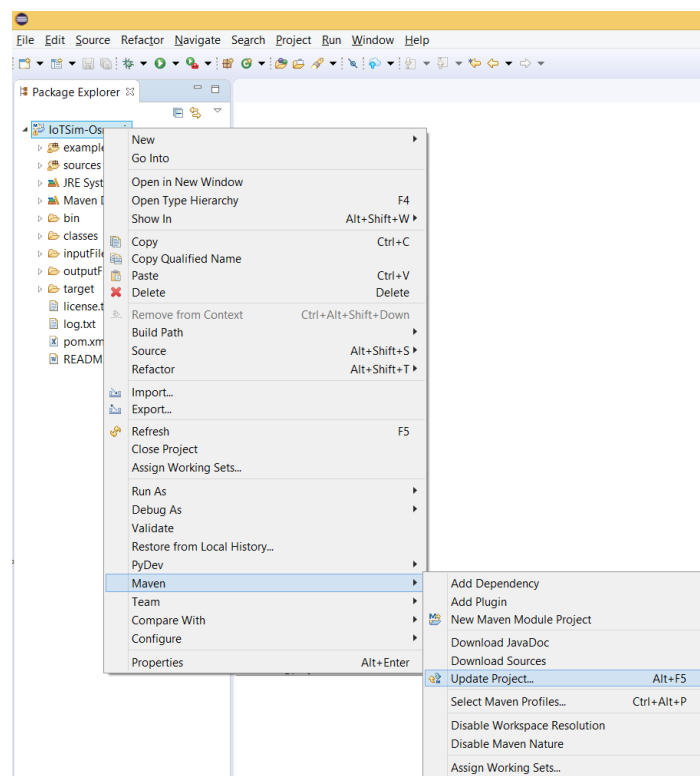

Figure 2.5
**Step 5:** Right click on IoTSim-Osmosis project and click on Update Project under Maven option (see Figure 2.5)